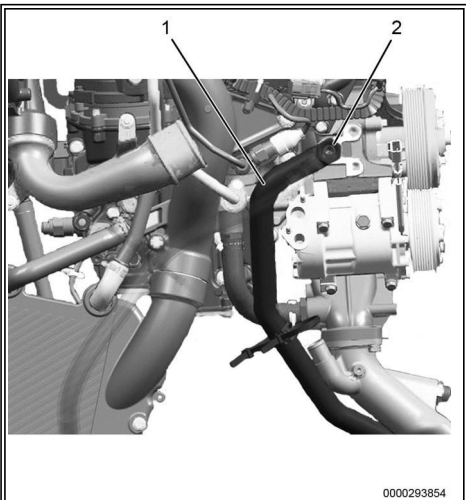

Figure 26: SCR Equipped Water Bypass Hose Replacement.
4. Rotate 90-degree elbow fitting (Figure 26, Item 2) down 1/8 turn.
5. Install new water bypass hose (Figure 26, Item 1) to deaeration tank and 90-degree elbow fitting.